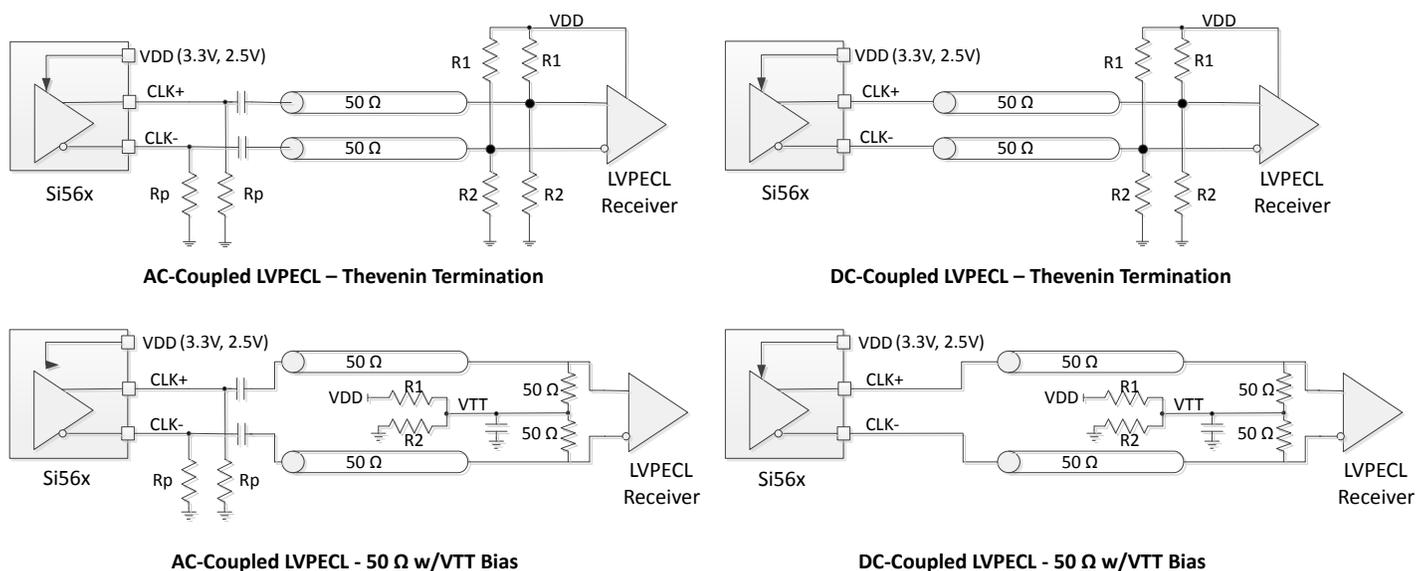

Figure 4.1. LVPECL Output Terminations
3. $R_{term} = 50 \Omega$ to $V_{DD} - 2.0$ V (see Figure 4.1).